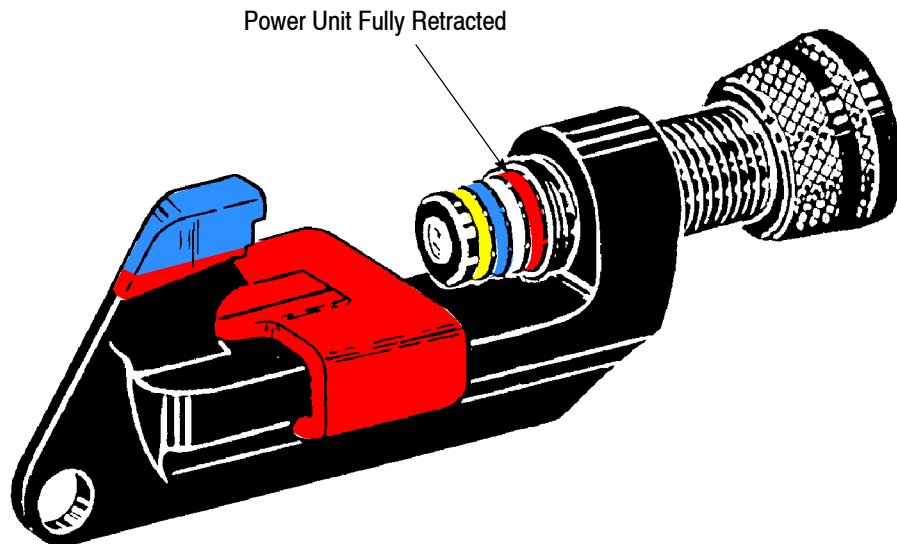

Figure 9
2. Always keep power unit fully retracted (see Figure 9) while transporting tool or until ready to install or remove a tap or stirrup. If the tool is accidentally dropped and fired with power unit ram fully retracted, the soft aluminum crush sleeve will absorb the force of ram travel and prevent additional damage to the tool. See Customer Manual 409-2106, Paragraph 7.2.
5. Turn shotgun stick counterclockwise to retract power unit, if it is not already fully retracted (Figure 9), to provide ample room for mounting tool overlap.